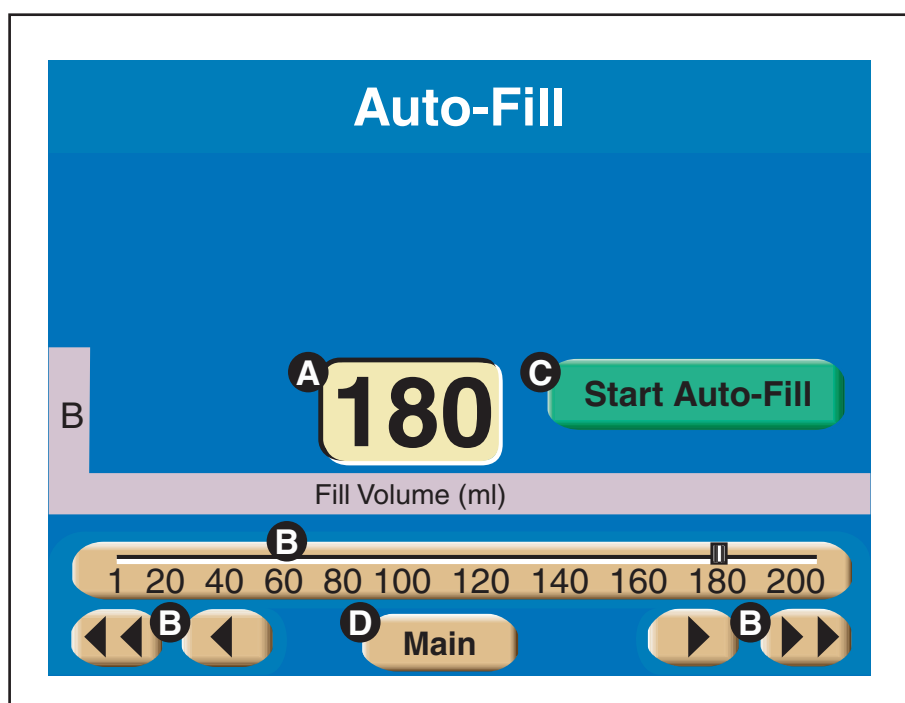

Figure 4-3-1 Auto-Fill Screen
Refer to Figure 4-3-1 and 4-3-2.
2. Rotate the powerhead to the vertical position. The screen shown in Figure 4-3-1 is displayed. NOTE: If the powerhead is utilizing a 200 ml syringe on both the A-side and the B-side, the Auto-Fill sequence will first fill the last installed syringe, then allow for filling the remaining empty syringe.
3. Set the desired Fill Volume (ml) by pressing the [Fill Volume] key **A** for either the A-side or the B-side (B-side is shown in Figure 4-3-1), then change the value via the slide bar keys **B**.
Upon loading a 200 ml syringe, the screen shown in Figure 4-3-1 is displayed (if Auto-Fill feature is turned ON in the Setup screen) to allow for automatic filling of the syringe. The Auto-Fill feature has been designed to automatically fill the syringe while minimizing the introduction of air. However, to manually fill the syringe:
1. Disable the Auto-Fill feature by pressing the [Main] key (D in Figure 4-3-1) to display the Main screen.